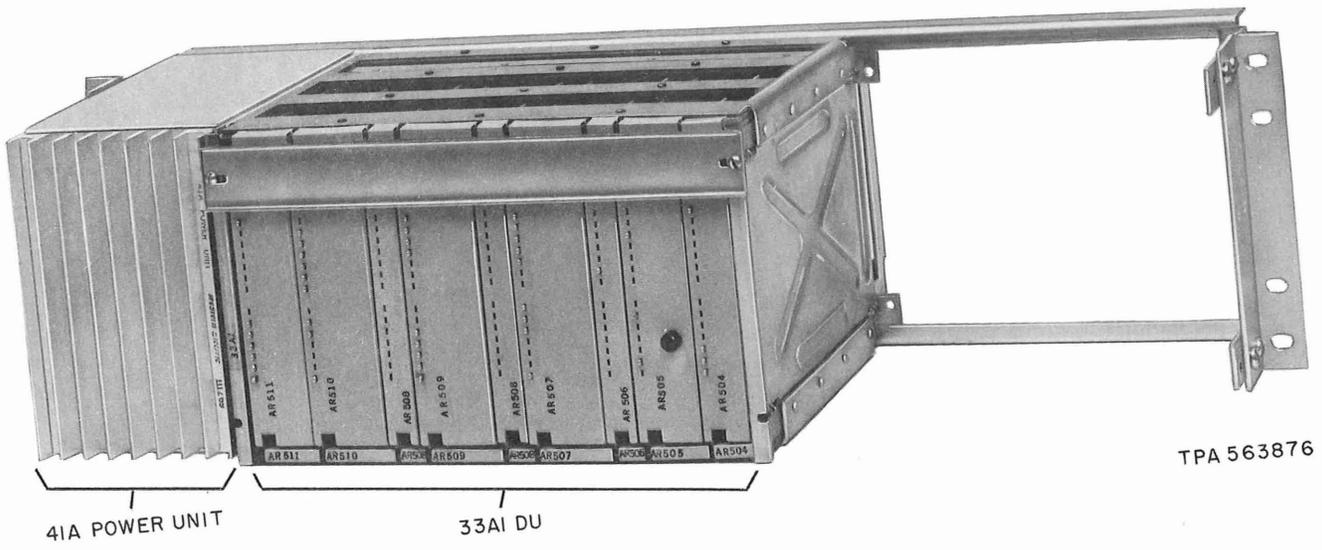

Fig. 1—Front View of Data Set 306A-L1
2.01 The DS 306A-L1 consists of a 33A1 Data Unit (DU), 41A power unit, 840129985 cord assembly, and a P3BG cord (Fig. 1 and 2). The intended application for DS 306A-L1 is in the wideband data test bay.